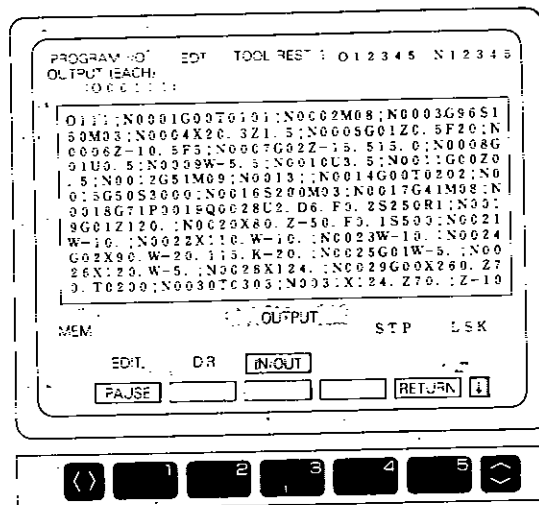

Fig. 3.4.36 O-number Output Screen
**3** Program output is started, and the screen changes and displays the contents of the part program being output, as shown in Fig. 3.4.36.